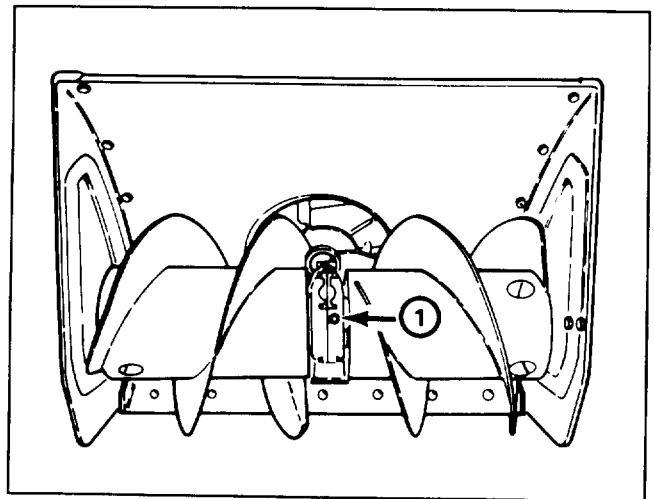

Figure 23
AUGER GEAR BOX OIL (Fig. 23)
3. Remove pipe plug from gear box (Fig. 23).